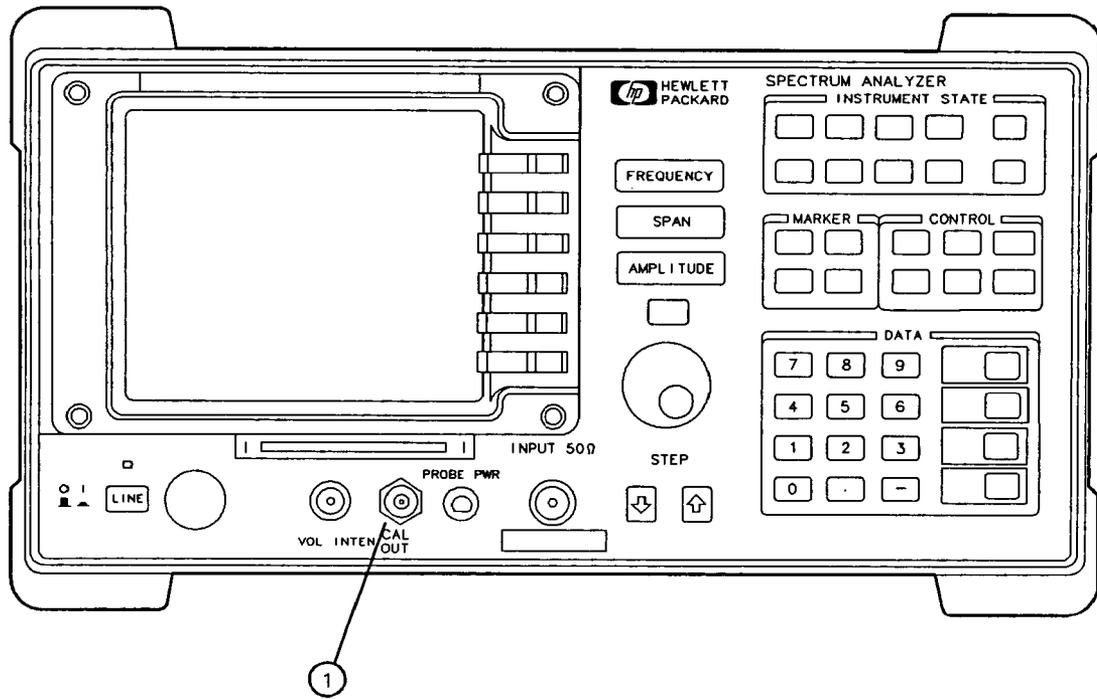

Figure 3-22. Front Panel CAL OUT Connector
26. Use a 9/16-inch nut driver to remove the nut **(1)** securing the front-panel's CAL OUT cable. See Figure 3-22. (Use caution to avoid damaging the front panel.)